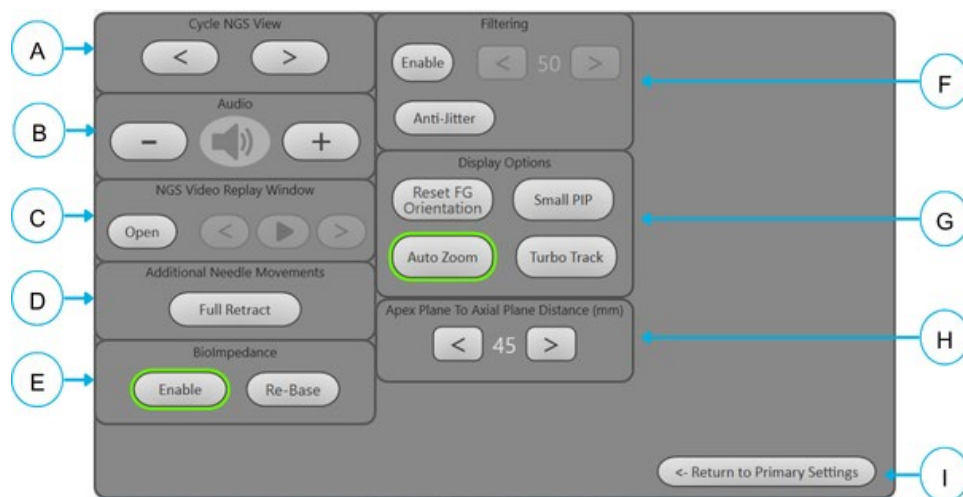

Figure 7-27: Extended Settings Popup Menu
- The **Extended Settings** pop-up menu will be displayed (see **Figure 7-27**).